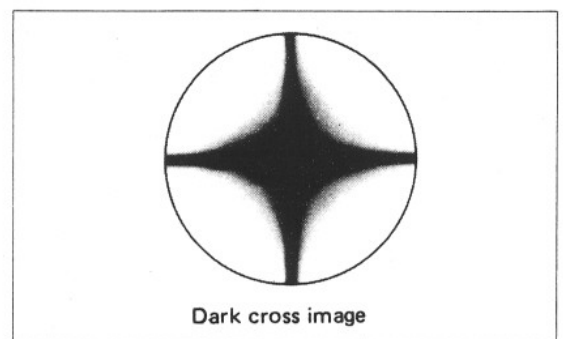

Fig. 13
- 4) Remove the eyepiece from the sleeve. Observing the exit pupil of objective inside, rotate the dia-polarizer so as to form a **dark cross image** on the exit pupil as shown in Fig. 13.